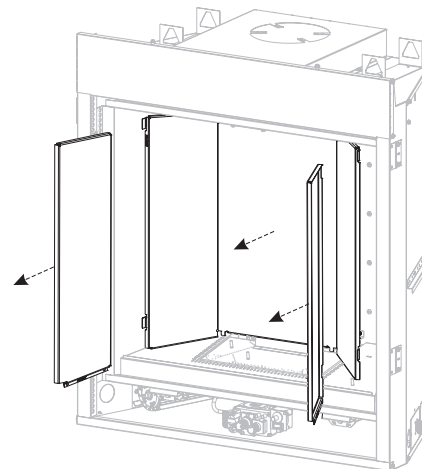

Figure 6
6. Remove liners as shown in Figure 6. (If installed)